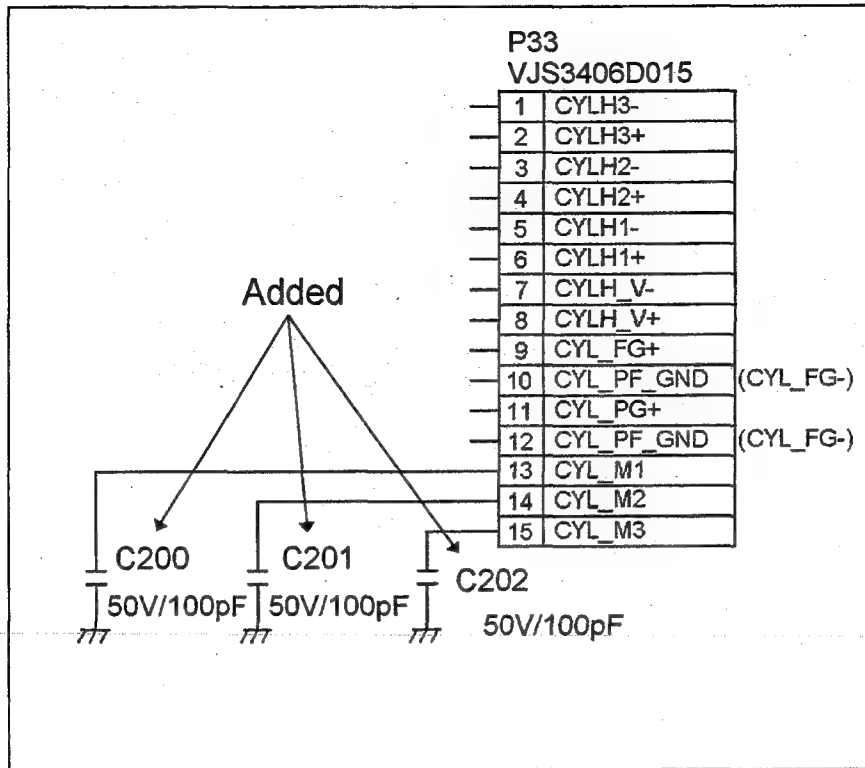

Fig. 1 Page 2-190 (C-7)
- 1). Add a capacitor C200 (50V/100pF) between pins #2 and #26 of P1 on the foil side as shown in figures 1 and 2.
- 2). Add a capacitor C201 (50V/100pF) between pins #1 and #27 of P1 on the foil side as shown in figures 1 and 2.
- 3). Add a capacitor C202 (50V/100pF) between pin #28 of P1 and land of GND on the foil side as shown in figures 1 and 2.